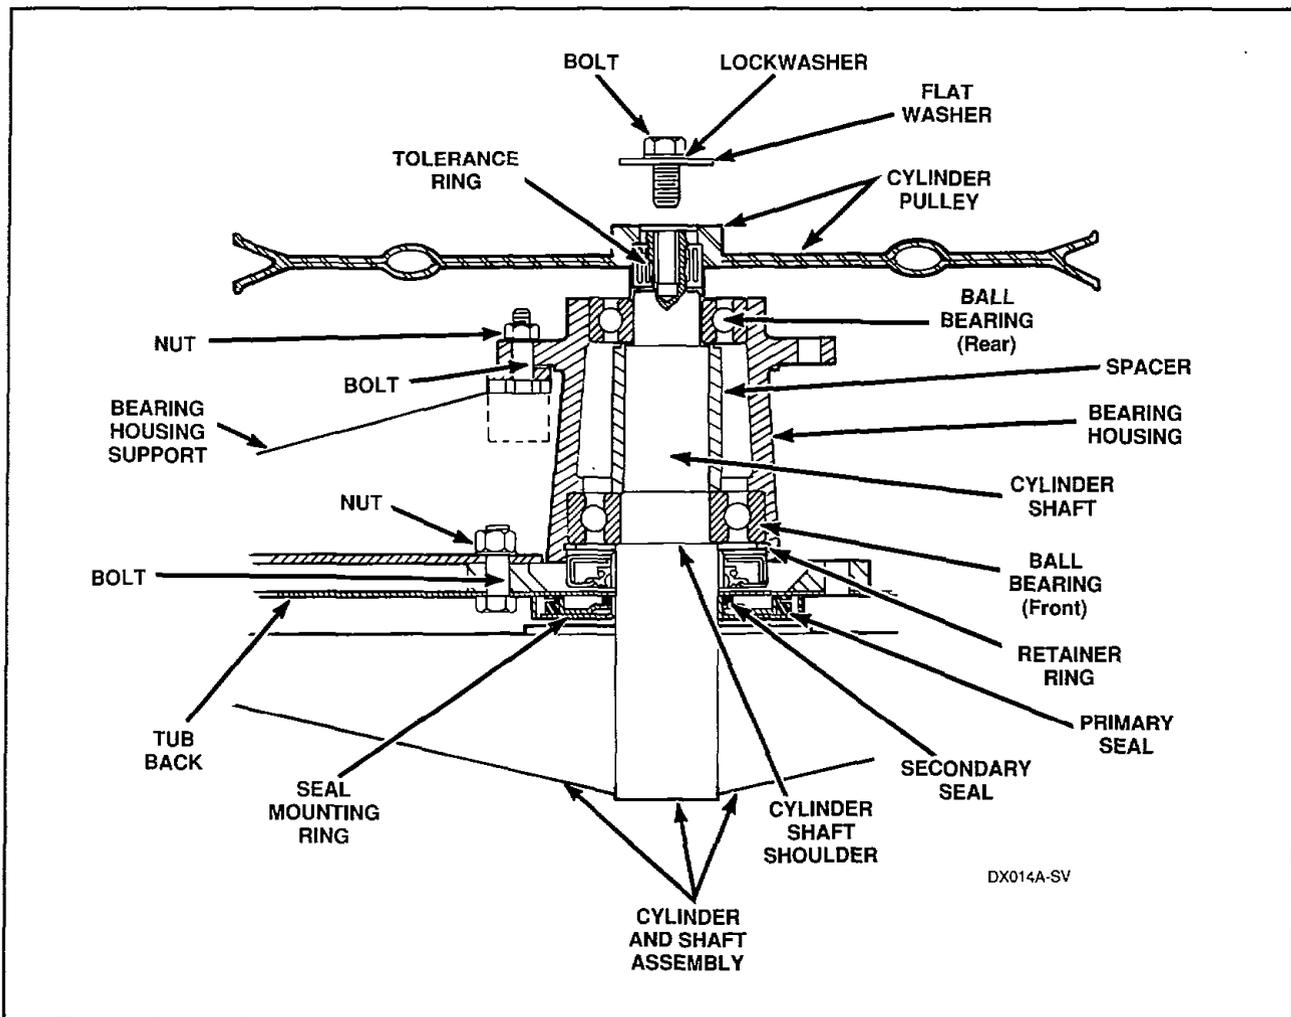

Figure 23
- y. Use a gear puller and remove bearing housing, with tub back attached, off cylinder shaft, *Figure 23*.
- b. Remove attaching hardware holding bearing housing supports and tub back to bearing housing, *Figure 23*.
- a. Reattach the tub back and bearing housing supports to the bearing housing and torque the mounting bolts to 75 foot pounds, *Figure 23*.
- b. Reattach the bearing housing supports to the rear flange of the bearing housing and torque the six mounting bolts to 35 foot pounds, *Figure 23*.
- e. Carefully place the bearing housing and tub back on the cylinder shaft, *Figure 23*.
**NOTE:** Press against the inner and outer race of the rear bearing until the front bearing bottoms against the shoulder on the cylinder shaft, *Figure 23*.
- f. Place tolerance ring into position and start pulley onto cylinder shaft, *Figure 23*.
- g. Press pulley onto shaft until the pulley hub contacts the inner race of the rear bearing, *Figure 23*.
- h. Install the bolt, lockwasher and flat washer onto end of cylinder shaft, *Figure 23*, and torque bolt to 45 foot pounds.